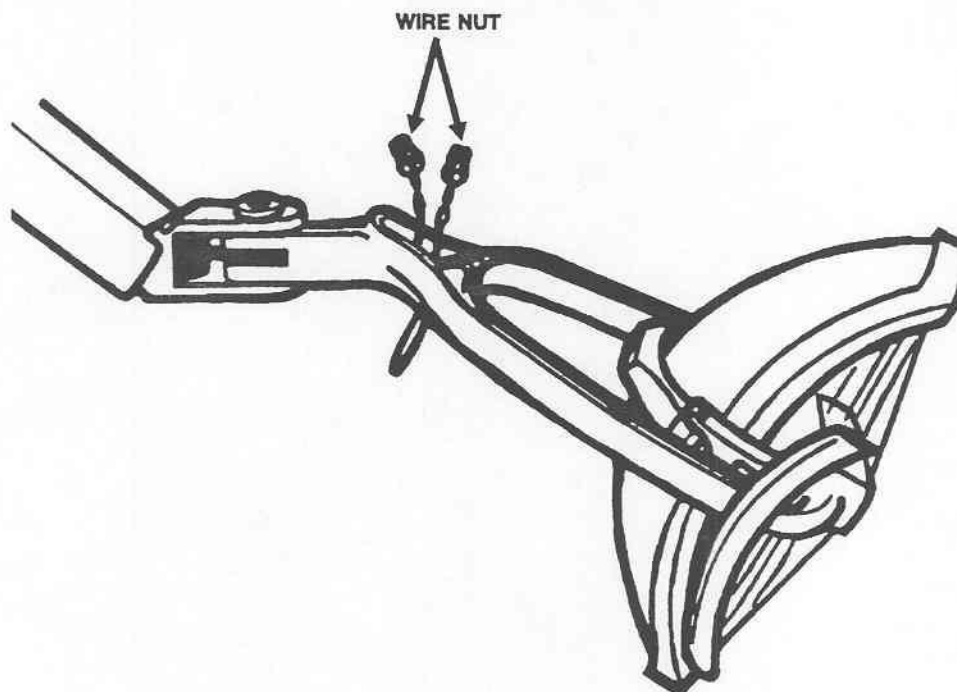

Figure 3-10. Electrical disassembly.
- (3) Remove the two electrical wire nuts from the wires leading from the front arm (fig 3-10).